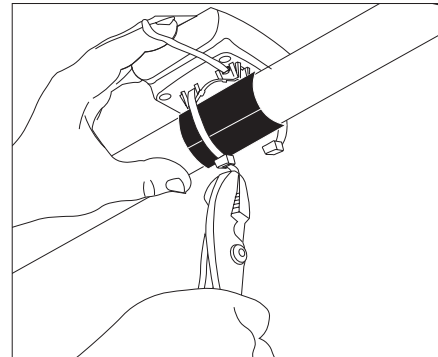

Figure 4: Install the receiver on the handlebar with wire ties
6. Place the receiver on the neoprene mounting pad, and then attach it to the handlebar using the wire ties. See Figure 4. Use the pliers to tighten the wire ties so the receiver cannot move.